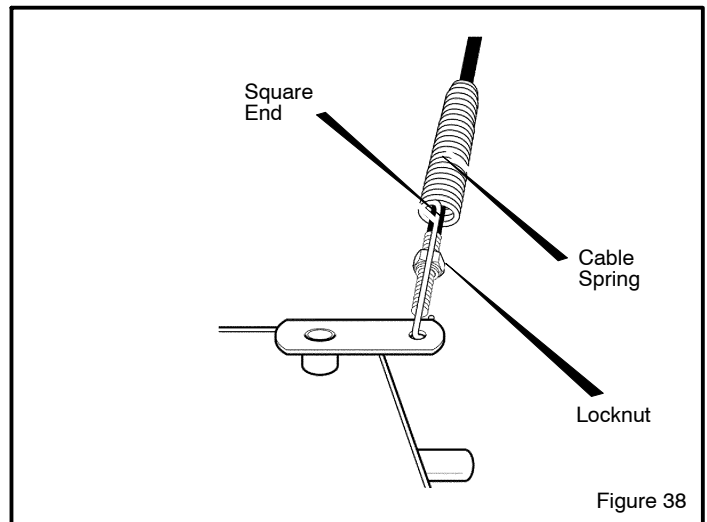

Figure 38
2. Push cable through spring to expose the threaded portion of the cable (see Figure 38).